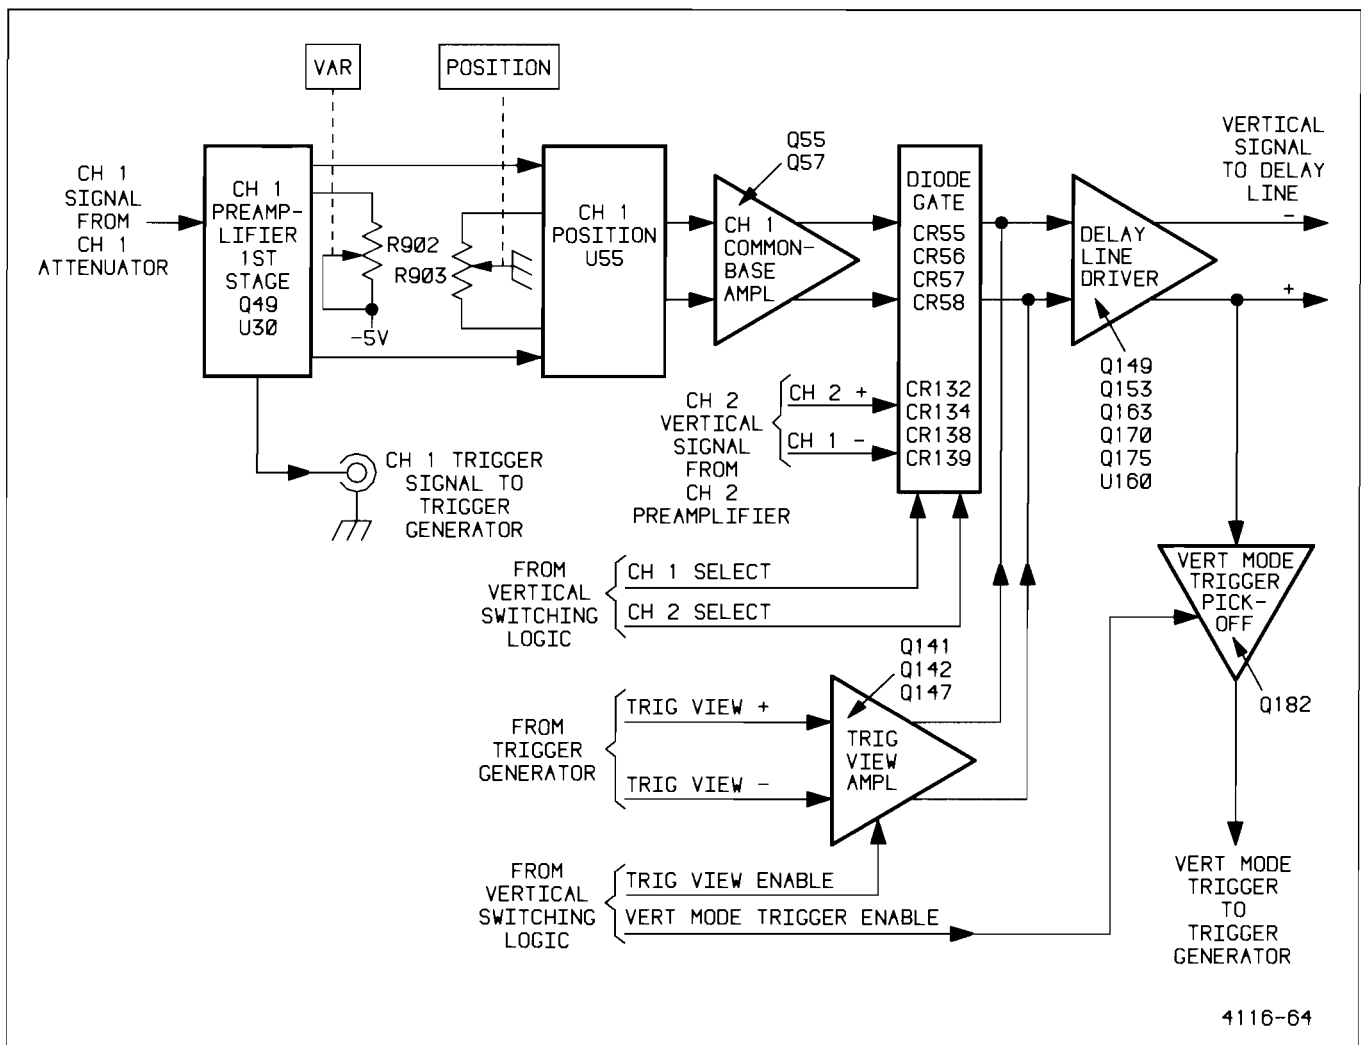

Figure 3-3. Vertical Preamplifier, Diode Gate, and Delay Line Driver, simplified block diagram.
Channel 1 and Channel 2 Vertical Preamplicifiers are shown on schematic diagram 2. They are identical with the exception of the added inverting feature in the Channel 2 circuitry. Complete Channel 1 circuit operation is described, along with the Channel 2 differences. A simplified block diagram of the Vertical Preamplicifier circuitry is shown in Figure 3-3.
**TRIG VIEW DISPLAY.** While the TRIG VIEW push button is pressed in, both Diode Gates are biased off, and the Trigger View Amplifier (shown in Figure 3-3) is enabled to pass the A Trigger View signal to the Delay Line Driver.